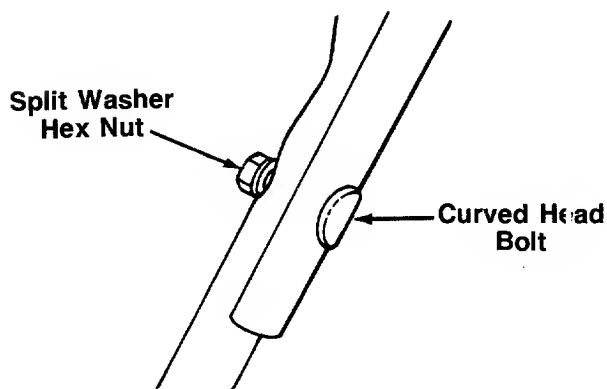

FIGURE 2.
- ➡ 2. Secure the left hand side of upper handle using the curved head bolt, split washer and hex nut as shown in figure 2.